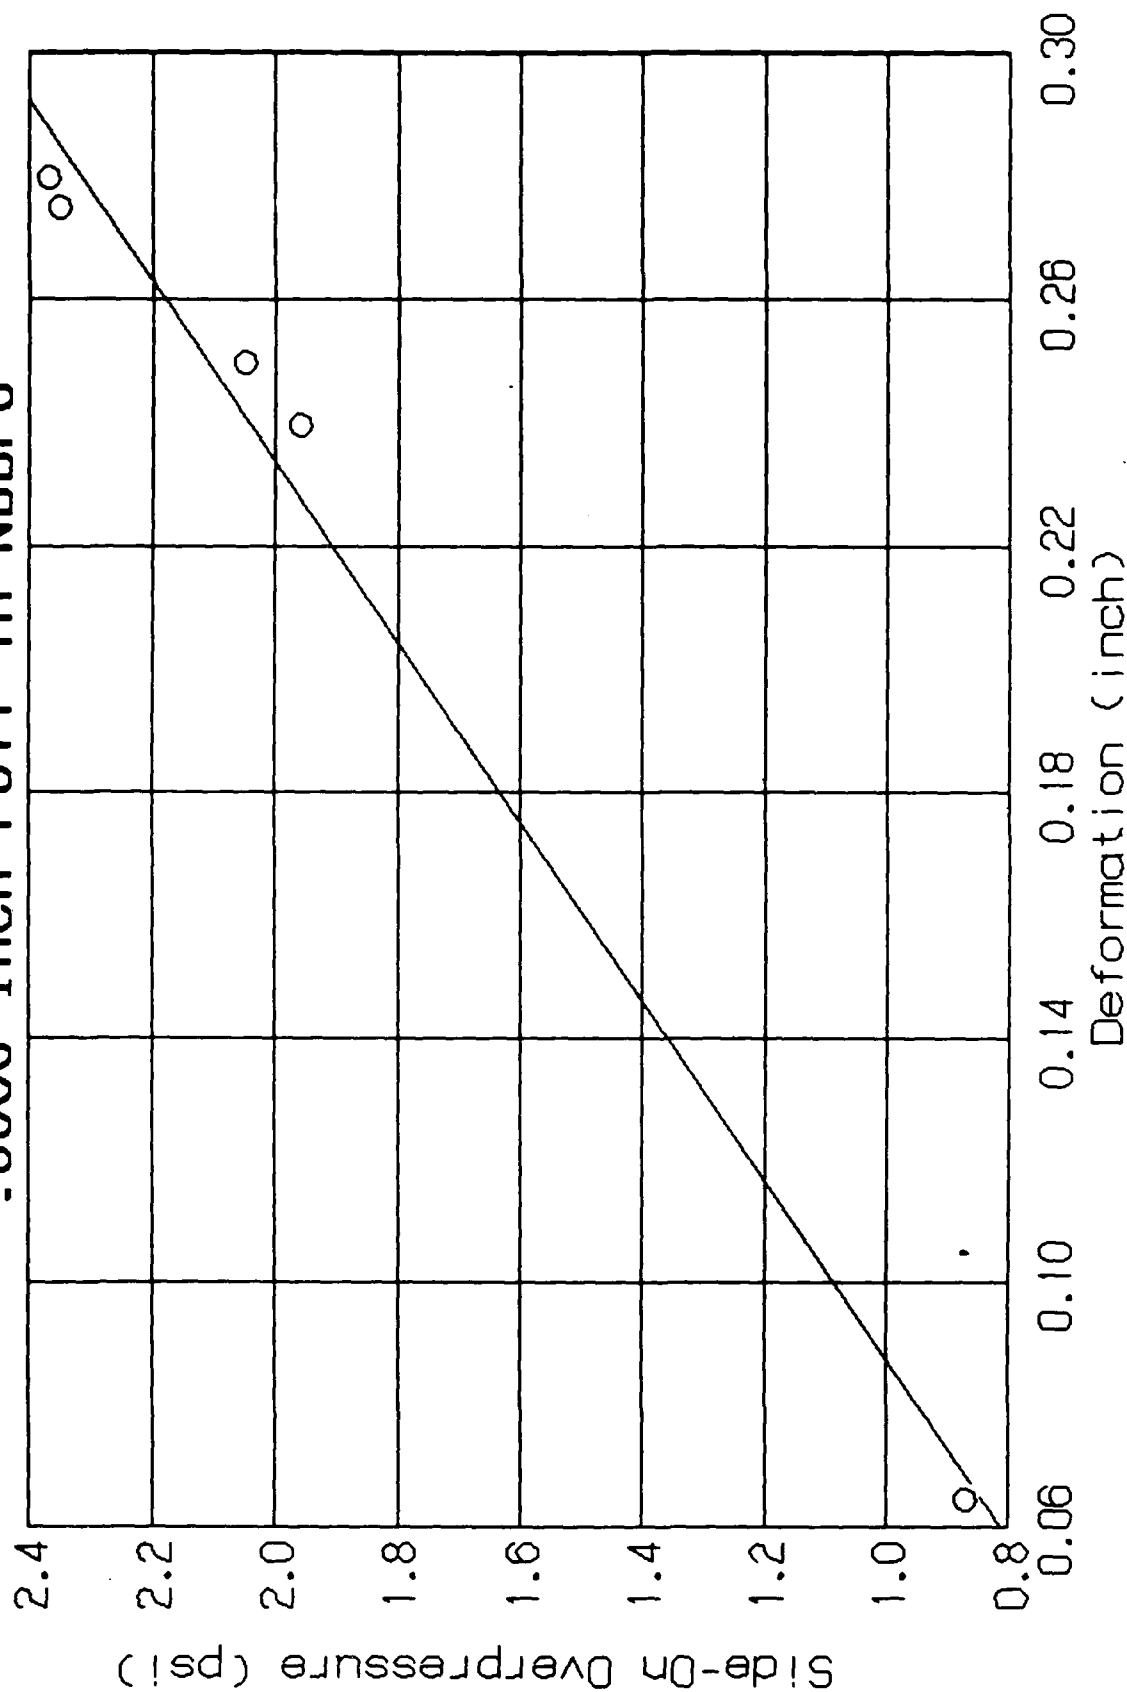

Figure 6.(U) CORRELATION CURVE B-3
- Figure 6. Correlation curve "B3": Side-on overpressure (PSI) correlated with deformation only (inch), using .0005-in. foil 10
2.11.4 Calibration Curve "B3." Choose calibration curve "B3" to determine side-on overpressure with .0005-in. foil when only deformation occurs. This curve correlates side-on overpressure with deformation for .0005-in. foil, with the plane of the foil oriented normal to the direction of propagation of the initial shock (Figure 6).